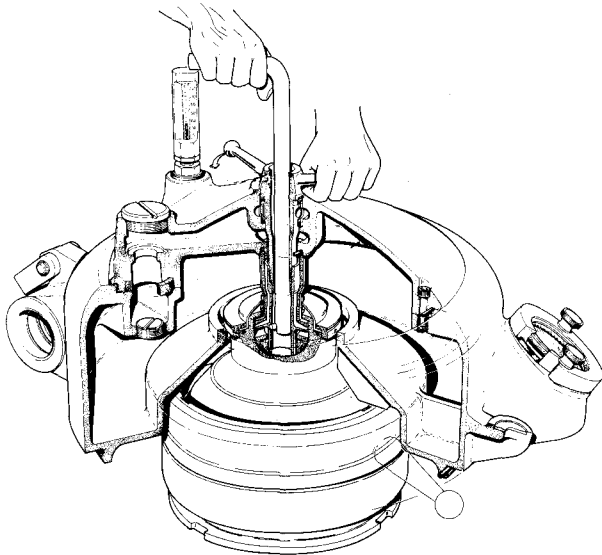

Fig. 2/1
Remove bowl top and separating disc: see fig. 2/32 - 2/42.
- 4) Apply a thin film of molybdenum disulfide paste to guide surfaces and threads of handle connection piece. Fasten centripetal pump by means of handle connection piece (left-hand thread). While doing so, block centripetal pump by means of wrench 404 (see fig. 2/1).